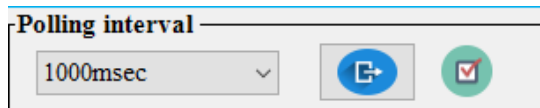

Figure 39
- This submenu is use for setting data fetching interval of device. Here two interval options are available for settings as shown in Figure 39.